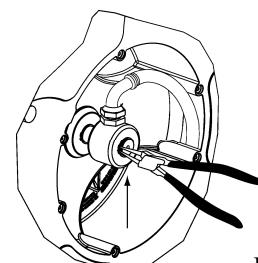

Fig. 17
- Remove the circlip and pull the swivel. (Fig. 17).